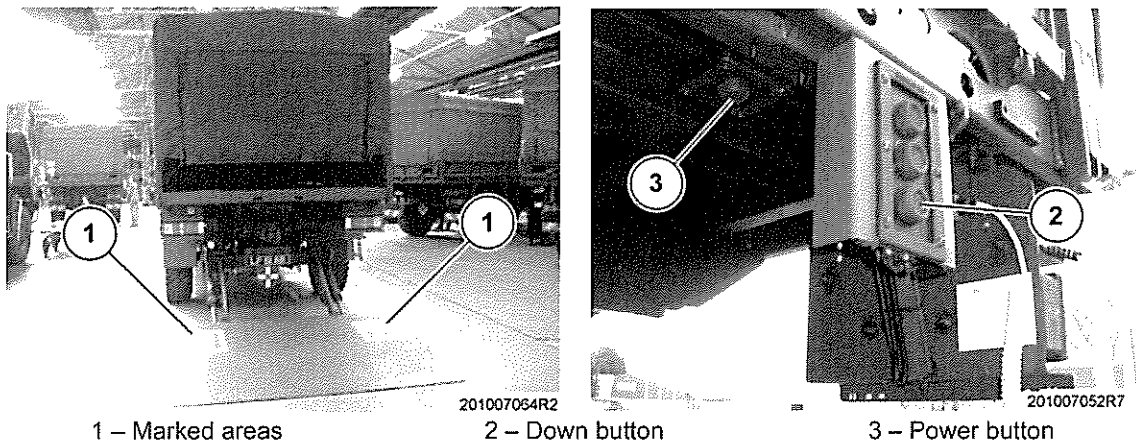

Fig 8 Raise the tail lift platform
- (1) **DANGER TO PERSONNEL. MAKE SURE THAT THE AREA TO THE REAR OF THE VEHICLE IS CLEAR WHEN OPERATING THE TAIL LIFT PLATFORM.**
- (2) **DANGER TO PERSONNEL. WHEN STANDING ON THE TAIL LIFT PLATFORM DURING OPERATION WITH THE REMOTE CONTROL, STAND IN ONE OF THE MARKED AREAS.**
- 7 Refer to Fig 8. When you stand on the tail lift platform and use the remote control, make sure that you stand in one of the marked areas (1).
- 8.1 Press and hold the power button (3).